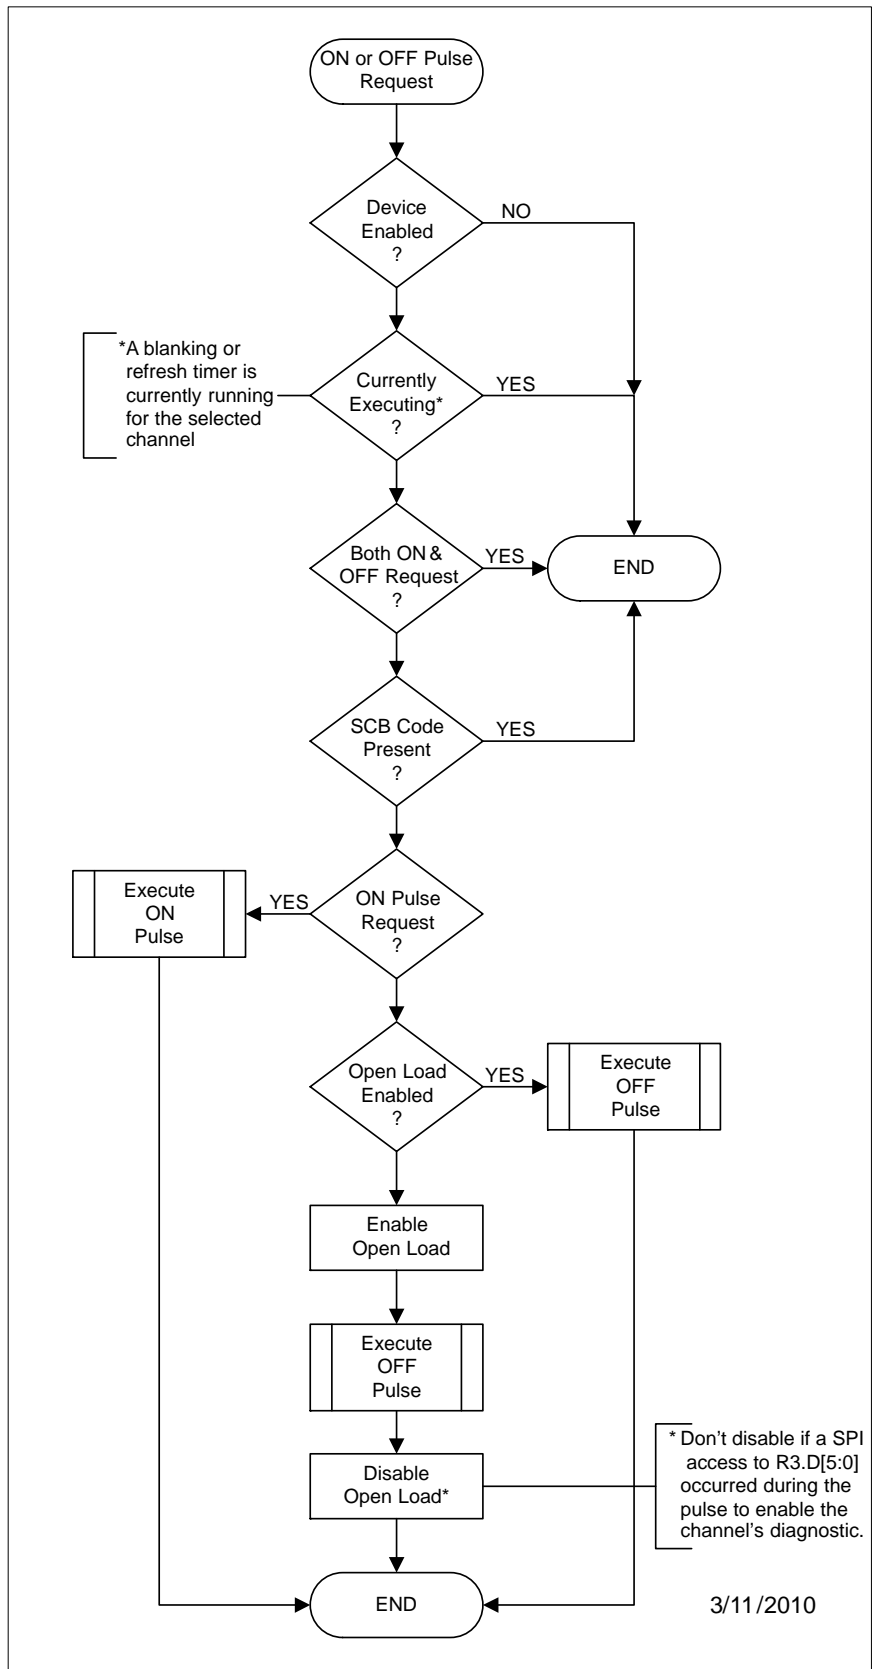

Figure 16. Pulse Mode Diagnostic Flowchart
When R1.NX = 1, the diagnostic ON pulse command is executed. The output changes state for the programmed tBL(ON) blanking period, and the diagnostic status is latched if of higher priority than the previous status. The output assumes the currently commanded state at the end of the pulse. A flowchart for the diagnostic pulse is given in Figure 16.